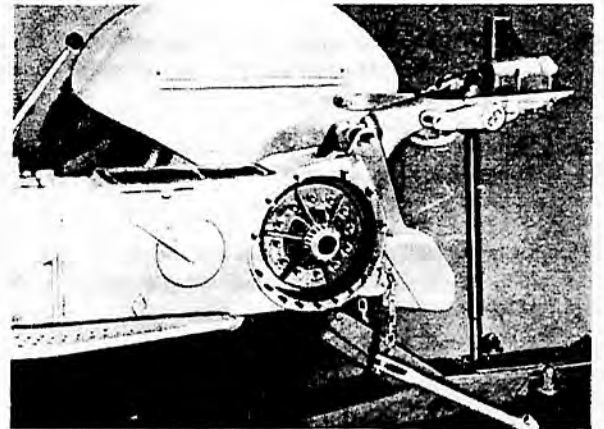

FIG. 11 HYDRAULIC LIFT COVER SUPPORTED ON MF.226
4. Pull hydraulic lift cover over rear of centre housing and support on MF.226 as shown in Fig. 11.